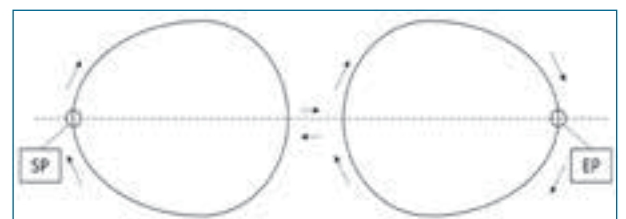
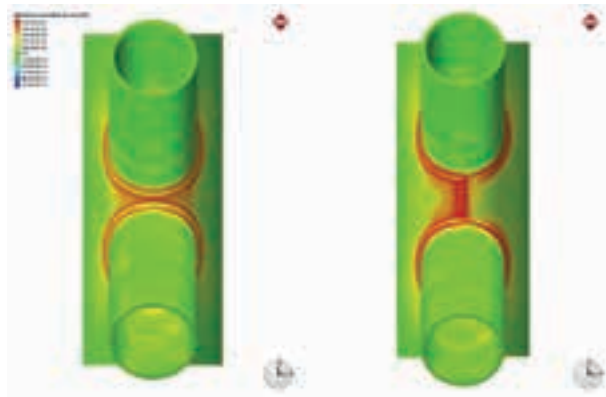
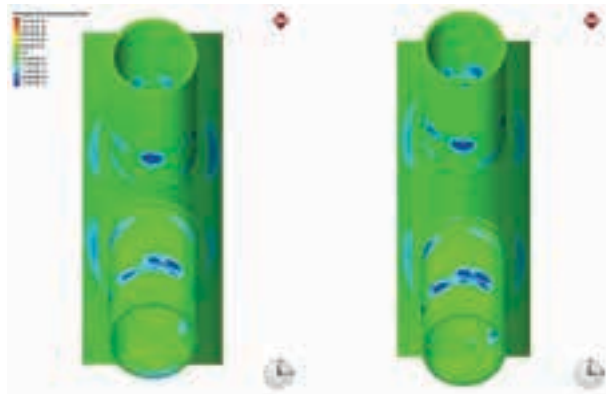

Figure 2: A top view of a tubular K-joint.
Figure 8: The maximum principle stress of the sample welded at 270 A (right) and 320 A (left) is due to the larger gap between braces.
Figure 9: A principle stress minimum of the sample welded at 270 A (right) and 320 A (left) with different gaps.
These tubular K-joints can be welded either in one pass by following a figure 8 pattern or in two passes, in the form of back-to-back figure 3 patterns. Figure 2 shows a reduced outline of a tubular K-joint in top view. The continuous seam begins at the starting point (SP) and runs along the marked arrows back to the starting point (SP). Conversely, the seam path when using the 3s pattern runs from the starting point (SP) to the end point (EP) and from there as a new seam after a reorientation back to the starting point. This reorientation results in a break of a few seconds, since the welding wire must be cut off before the welding torch is ready to resume welding.
The residual stresses are shown below. Figure 8 and Figure 9 show the maximum principle stress and the principle stress minimum for two different welding procedures and a varying gap. Limiting both colour legends for a range of +500 MPa to -500 MPa in Figure 8, it is evident that the stress around the weld seams does not differ. Disregarding the area between the braces and only focusing on the crown toe, crown heels and saddler clearly shows that the different welding speeds and welding currents induce almost the same results.
Similar to Figure 8, Figure 9 validates the finding that both welding procedures behave similarly.